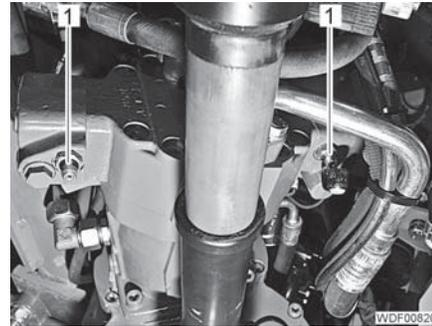

Fig. 22 Test adapter
- Screw in and tighten 2 test adapters (Fig. 22,1).